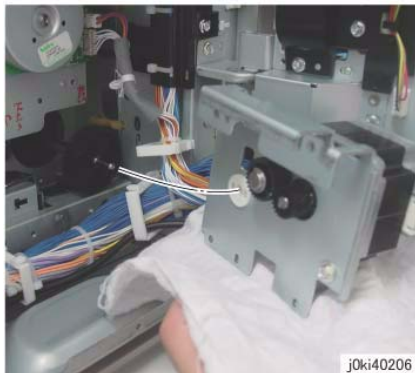

Figure 11 Install the Takeaway Motor
3. When installing the Takeaway Motor, align the shaft to the hole of the bearing. (Figure 11)